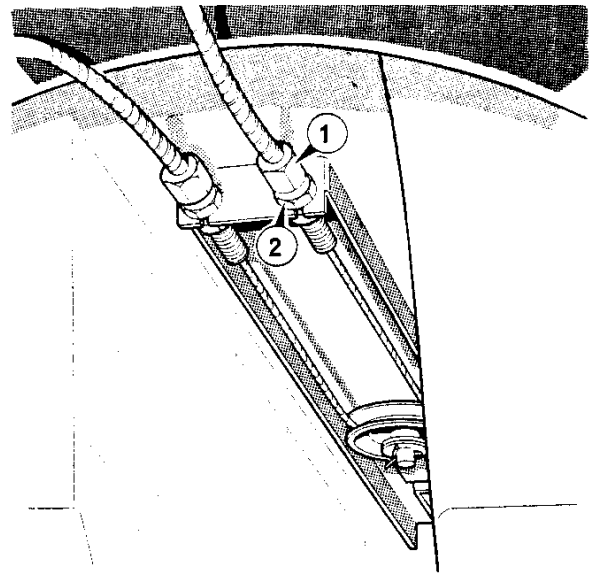

Figure 3 Handbrake adjusters
2. Slacken off the lock nuts shown in **Figure 3**. Adjustment can be affected by means of the main adjuster screws. Adjust the two screws equally. Re-tighten the lock nuts securely.